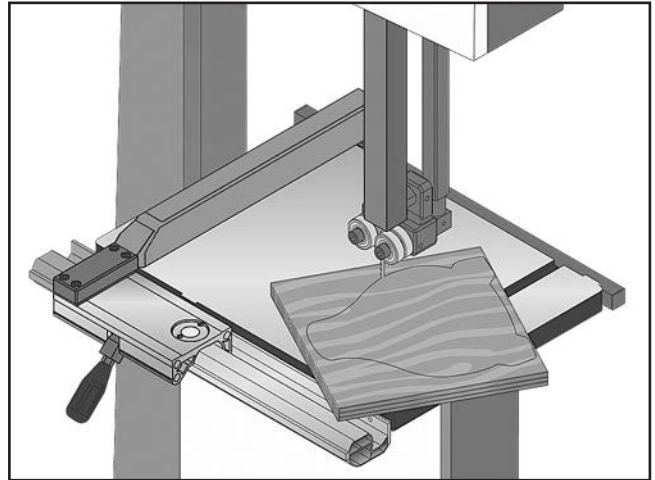

Figure 41. Example of a stacked cut setup.
5. Cut stack of pieces as though you were cutting a single piece. Follow your layout line with blade kerf on the waste side of your line (see **Figure 41** for an example of a stacked cut setup).